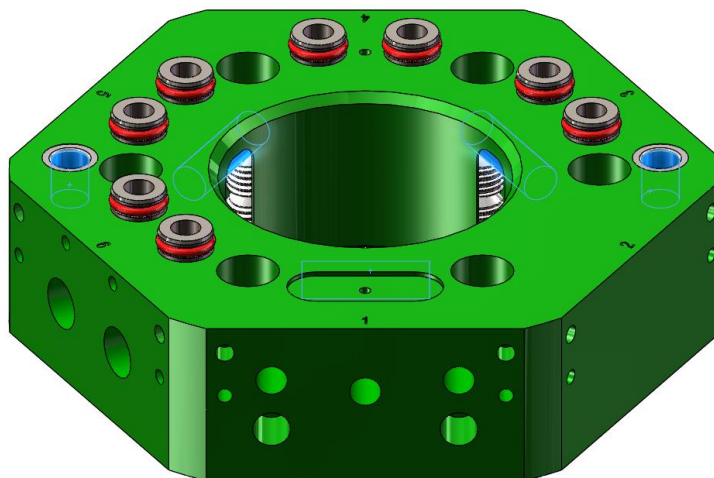

Figure 8.1.1.1-1. ET100 Tool Side Lubrication
2. Apply a liberal coating of white lithium grease to the latching surfaces and to the inner surface of the locating/alignment bushings, as shown in Figure 8.1.1.1-1 with the surfaces highlighted blue.
3. Apply a thin coating of Lub-A-Cyl to the O-ring surfaces on the valve fittings as shown in Figure 8.1.1.1-1 with the surfaces highlighted red.